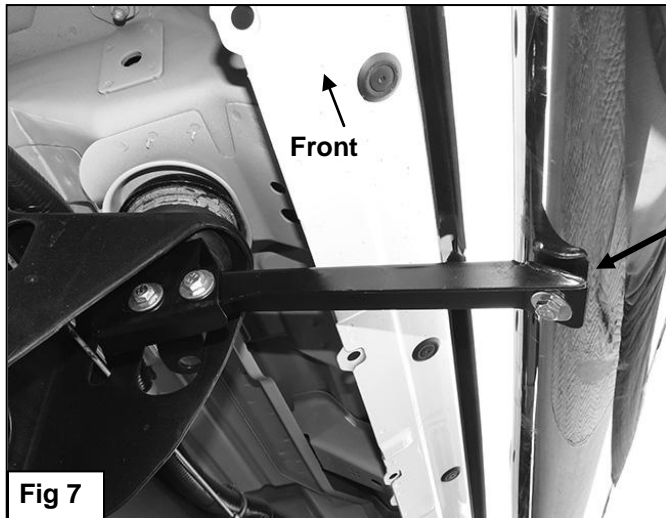

Fig 7
7. Attach the center Mounting Bracket to the Sidebar with the included (1) 8mm x 25mm Hex Bolt, (1) 8mm Lock Washer and (1) 8mm Flat Washer, **(Figure 7)**. If the Bracket does not line up with the insert, it may be necessary to loosen the body bolt slightly to move the Bracket. Do not tighten the 8mm hardware at this time.